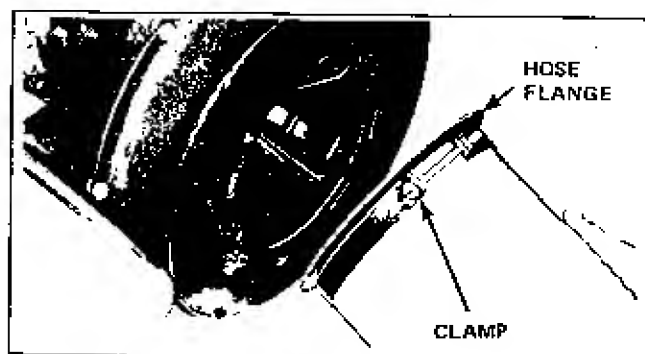

FIGURE 11
1. Install the mounting flange and clamp on the plain end of the hose. Tighten the clamp screw securely. (Figure 11).
3. Attach the flanged end of the roving nozzle to the blower housing, seating the flange fully in the notches. (See Figure 11).